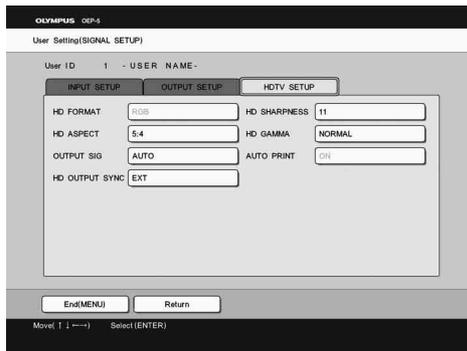

Figure 5.12
- 3 Press “◀” or “▶” to display the “HDTV SETUP” menu (see Figure 5.12).